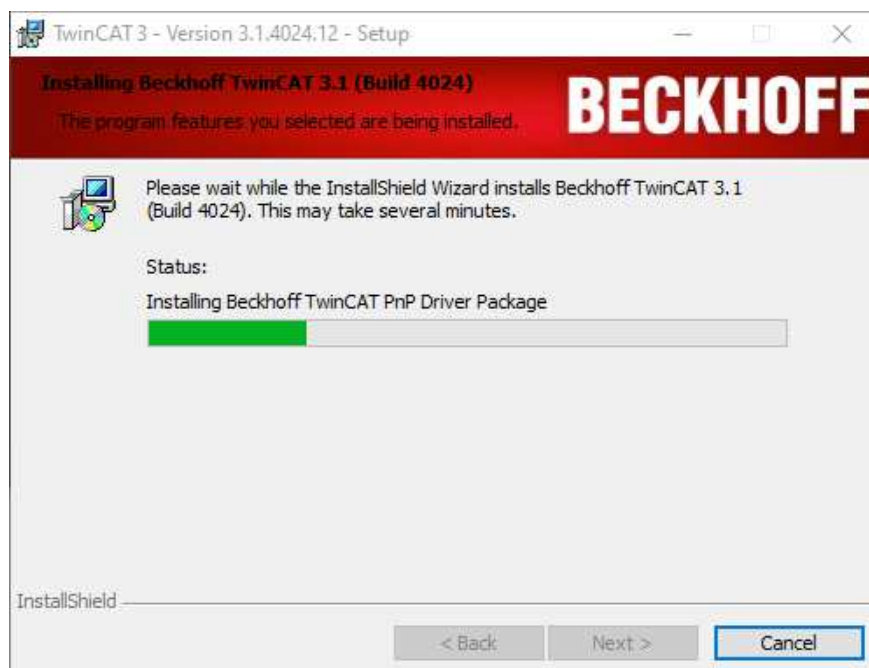

Figure 7: Installation - Communication driver package
6. The installer should automatically install the software and all necessary Beckhoff communication drivers for the HEAT VIEW controller, and you should see the installation status progress on a window like that shown in Figure 7 below.